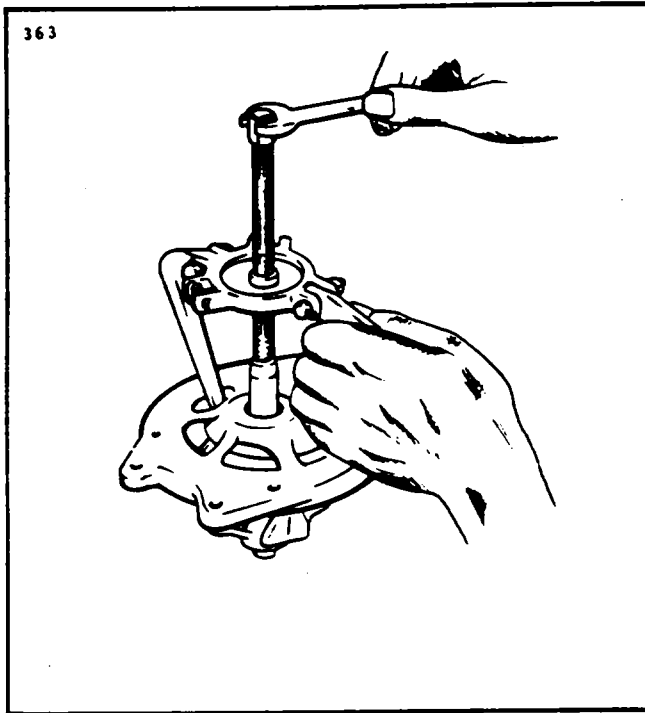

Figure 24-3. Removal of Drive End Head
4. Remove the nuts, lock washers, flat washers and insulators from the output and auxiliary terminal studs. Note carefully the correct assembly of the insulator washers and bushings. Using the special tools shown in Figure 24-3, support the end head and press out the three negative rectifiers. The end head can now be separated from the stator assembly.